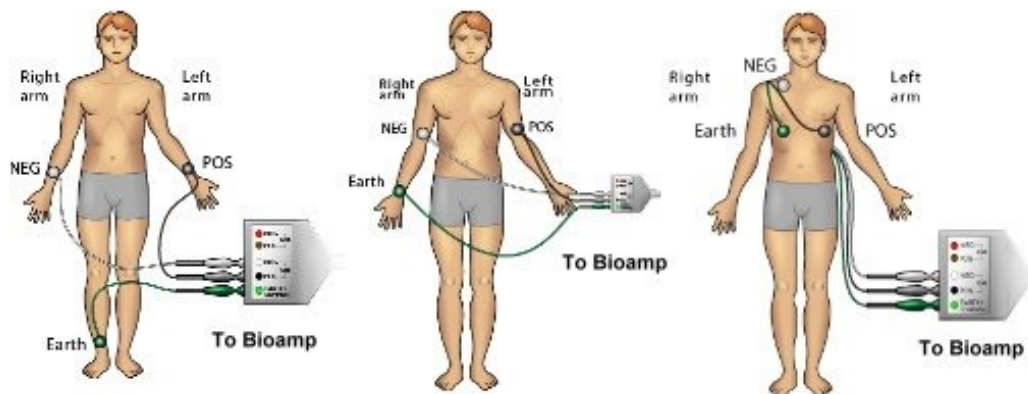

Figure 1.1 – Possible Three-lead ECG Configurations (Earth is Ground)
8. **Pick** a configuration from **Figure 1.1** and place electrodes at the designated locations on the subject’s body using the gel.